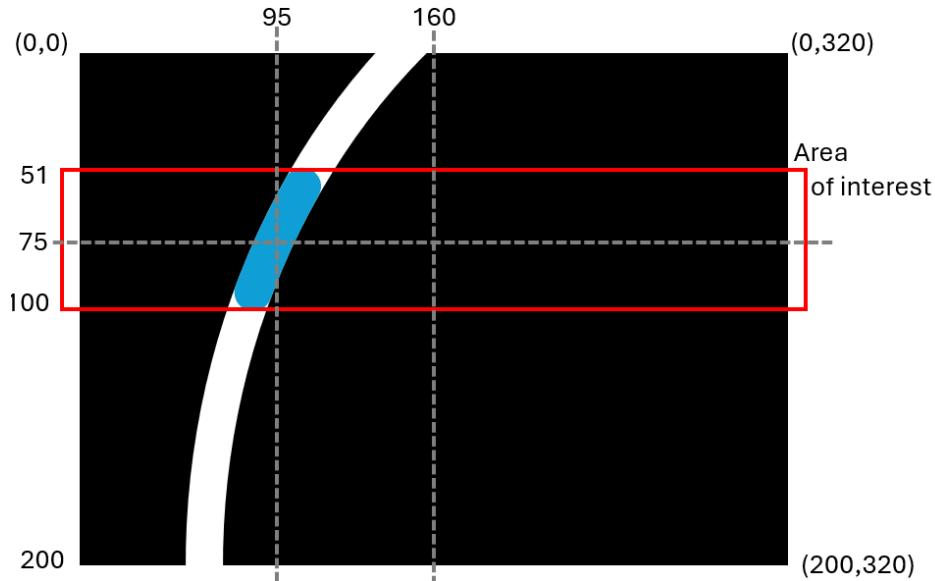

Figure 3. Image with the blob of interest in blue.
6. Using the input parameter `col`, find the *error* representing the difference between the center of the line and the center of the image, which you want to minimize. Figure 3 will help you visualize this.
7. Using the variable *angle*, find the error angle of the blob center based on the bottom center of the image. Use Figure 3 as a reference to find the correct geometric function to use.